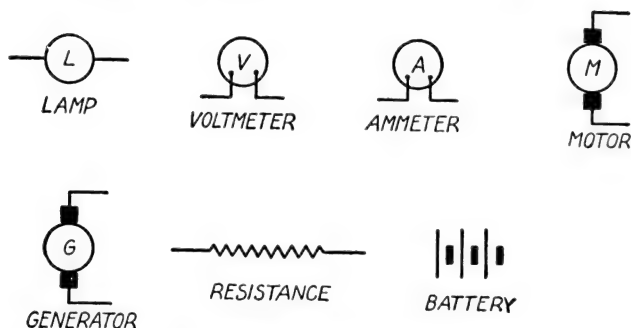
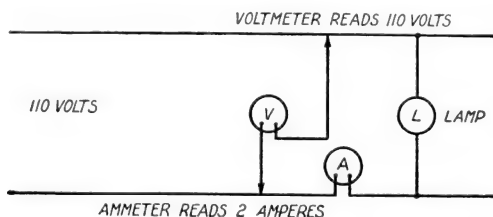

Fig. 14. Symbols Used in Electrical Circuits
Fig. 15. Method of Connecting Voltmeter and Ammeter in Circuit
**NOTE:**—It will help you to see the problem if you will make a sketch, like the one shown in Fig. 15, using the symbols given in Fig. 14.